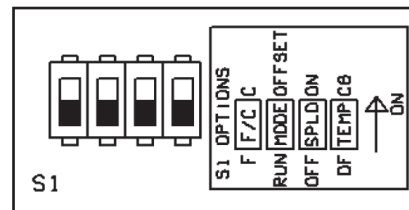

Fig. 10: Configuration Switches S1
\*\* S1-4, Position (CG) connects [Temp-] terminal to the [GND] terminal internally. The (DF) position makes the [TEMP-] terminal floating. (See Fig.10)
The four DIP switches on the bottom of the board called S1 configure four different parameters (see Fig: 10).